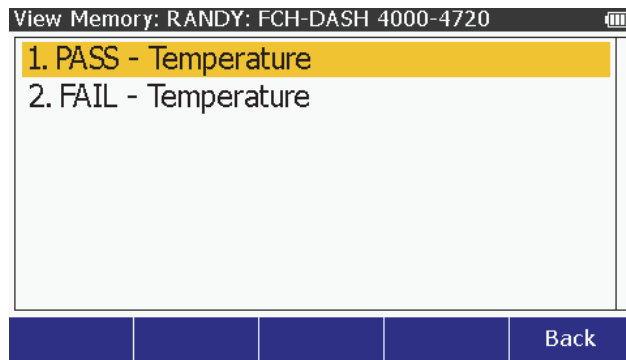

Figure 57. Test Results Screen
8. Push **ENTER** to show the test results data saved for the test ID. See Figure 57.